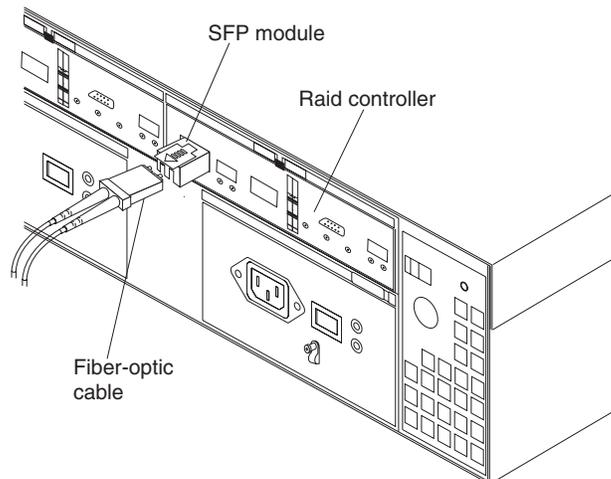

Figure 35. Connecting cables to the installed SFP
2. Connect the fiber-optic cable to the installed SFP, as shown in Figure 35, using the instructions as describe in “Connecting an LC-LC cable to an SFP module” on page 37.